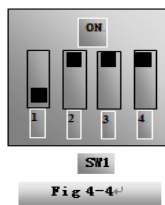
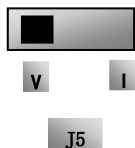

Fig 4-4
Fig 4-5
- (5) There is a red four-digit coding switch SW1 near the control terminal block of EM30 series, as shown in Figure 4-4. The function of coding switch is to select the analog input terminals AI1 and AI2, input range(0~5V/0~10V/0~20mA); In actual application, select the analog input channel through F203. The position of factory coding switch is showed in fig 4-4, AI1: 0~10V input, AI2: 0~20mA input; Another switches states and mode of control speed are as table 4-2.
- (6) Close the switch DI3, the motor starts forward running;
- (7) The potentiometer can be adjusted and set during running, and the current setting frequency of the inverter can be changed;
- (8) During running process, switch off the switch DI3, then, close DI4, the running direction of the motor will be changed;
- (9) Switch off the switches DI3 and DI4, the motor will decelerate until it stops running;
- (10) Switch off the air switch, and power off the inverter.
- (11) There are two analog output terminals AO1 and AO2, both terminals can output voltage signal and current signal, the selecting switch of voltage/current is J5, the position of factory toggle switch is showed as below in Fig 4-5, AO1=V, AO2=I, the output relation is shown in table 4-3.